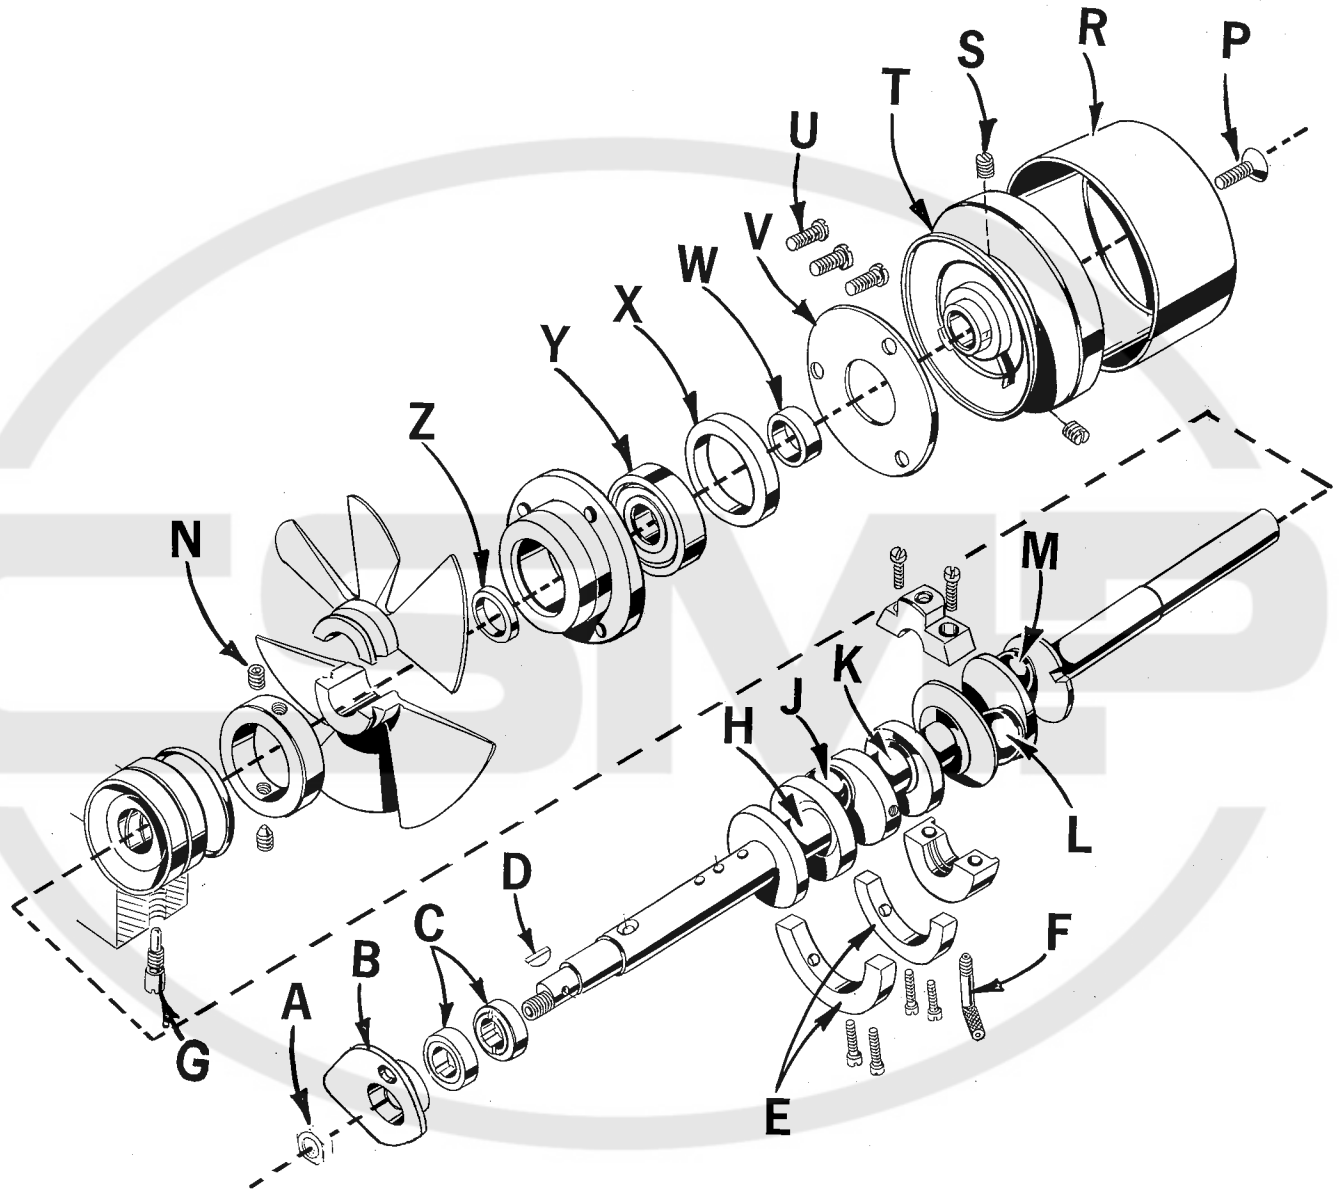

Fig. 22
3. Remove nut (A, Fig. 22) 401 looper thread take-up (B) and eccentrics (C).
14. Loosen clamp nut (A, Fig. 23) which holds the upper knife driving arm (B). Access to clamp nut is through top cover. Draw driving arm to the left until upper knife driving lever (C) and connecting rod (D) drop, allowing removal of bearing cap (E). This is at bearing point (K, Fig. 22) on crankshaft. Observe same precautions when reassembling cap as described in paragraph 7.
15. Loosen two screws (N) in fan collar; remove both halves of cooling fan.
16. Remove screw (P); take off pulley cap (R).
17. Loosen two screws (S): remove pulley (T).
18. Remove three screws (U); take off bearing retaining plate (V): also, spacer collars (W) and (X) may be removed at this time.
20. If necessary to replace ball bearing (Y), it can be pressed off shaft on an arbor press. In replacing the bearing it must be pressed on carefully until it seats against ground thrust washer (Z).